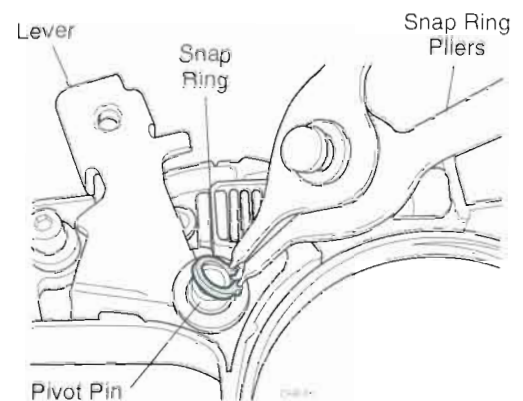

Figure 10.14 Removing the Pivot Pin Snap Ring
STEP 2. Use snap ring pliers to remove the snap ring from the brake lever pivot pin, and then remove the metal brake lever, spacer, washer, and spring (Figure 10.14).